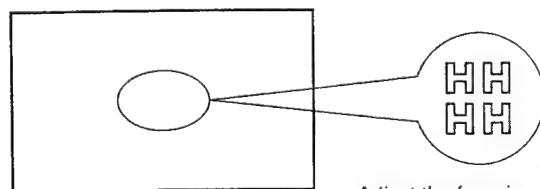

Fig. 7
4. Move the magnet focus coil forward and back to adjust the focus at the center of the screen. (Fig. 7)